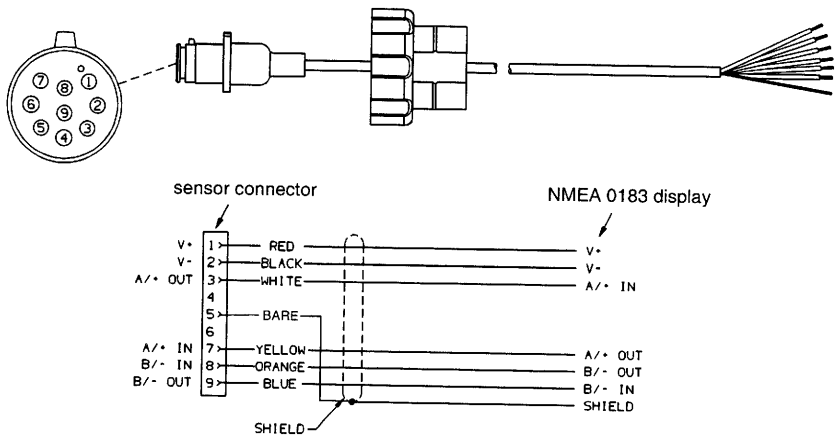

Figure 5. NMEA 0183 Sensor Cable
- b. **No connector**—If your sensor cable does not have a connector on the display end, it must be hard wired. Refer to the owner's manual that came with your display and connect the colored wires as shown in the table below and Figure 5.
5. Connect the wires to the display (see Figure 5).